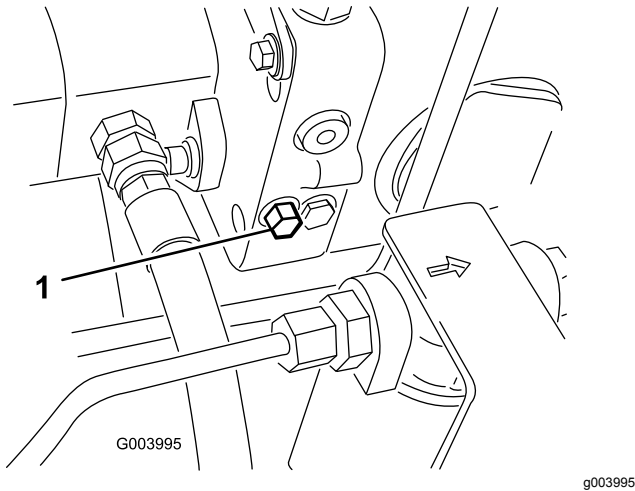

Figure 42
1. Locate the bypass valve on the left side of the hydrostat (Figure 42) and rotate the bolt 1–1/2 turns to open and allows fluid to bypass internally.